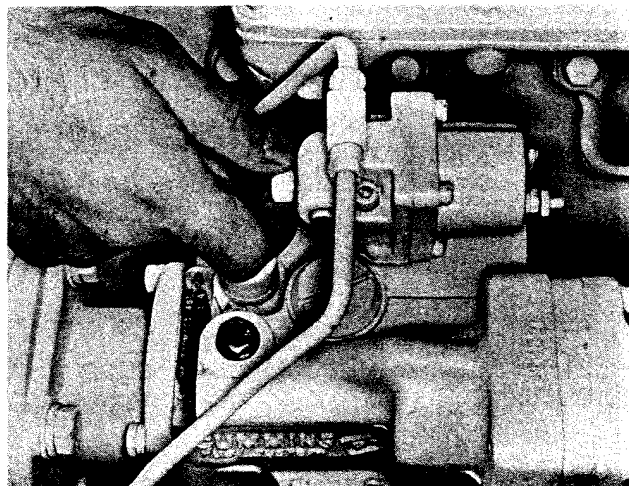

Fig. 1-11, (V21970). Fuel pump manual override knob
**Note:** A manual over-ride knob, Fig. 1-11, provided on the forward end of the electric shut-down valve allows the valve